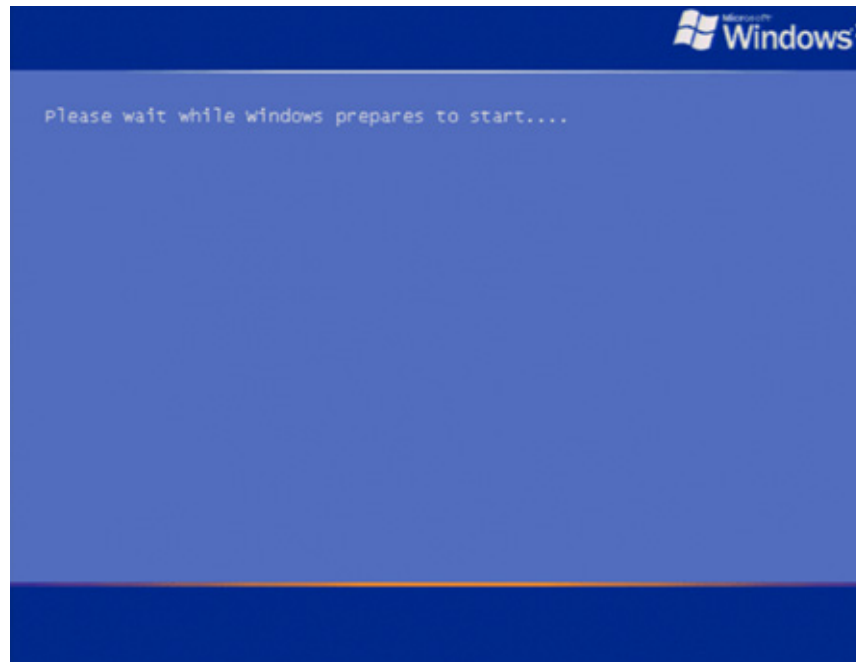

Figure 14 Windows XP Pro for Embedded Systems start up screen
Step 4. The windows start up screen as shown in Figure 14 appears.